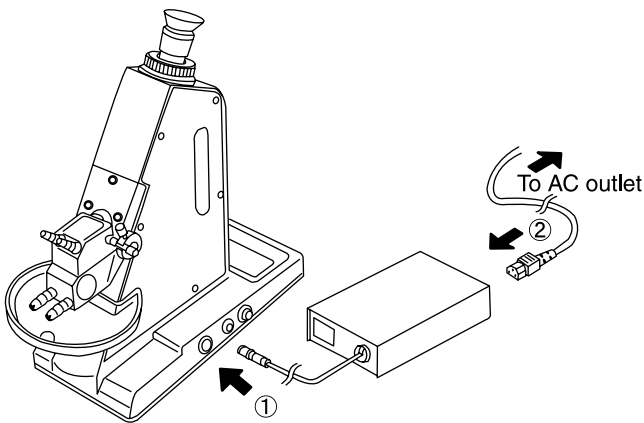

Fig. 5-1
- ① Insert the AC adaptor connector into the power port on the refractometer until you hear a click (Fig. 5-1①).
- ② Connect the AC cable to the AC adapter with the connector (Fig. 5-1②).
- ③ Plug the other connector of the AC cable into a AC outlet (Fig. 5-1③).